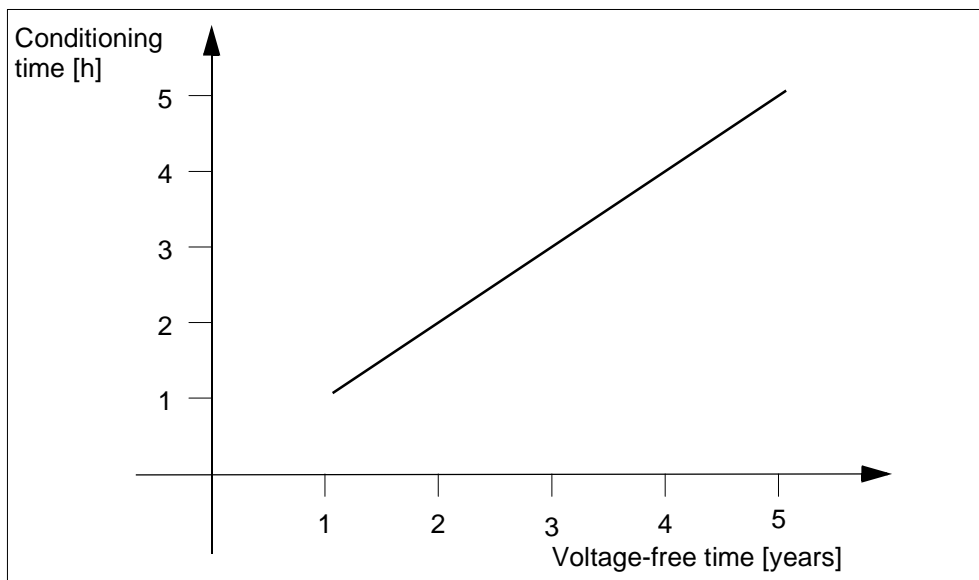

Fig. 17: Conditioning time, depending on the voltage-free period
- Wait for the duration of the conditioning period which corresponds to the length of the voltage-free period (►► Fig. 17).